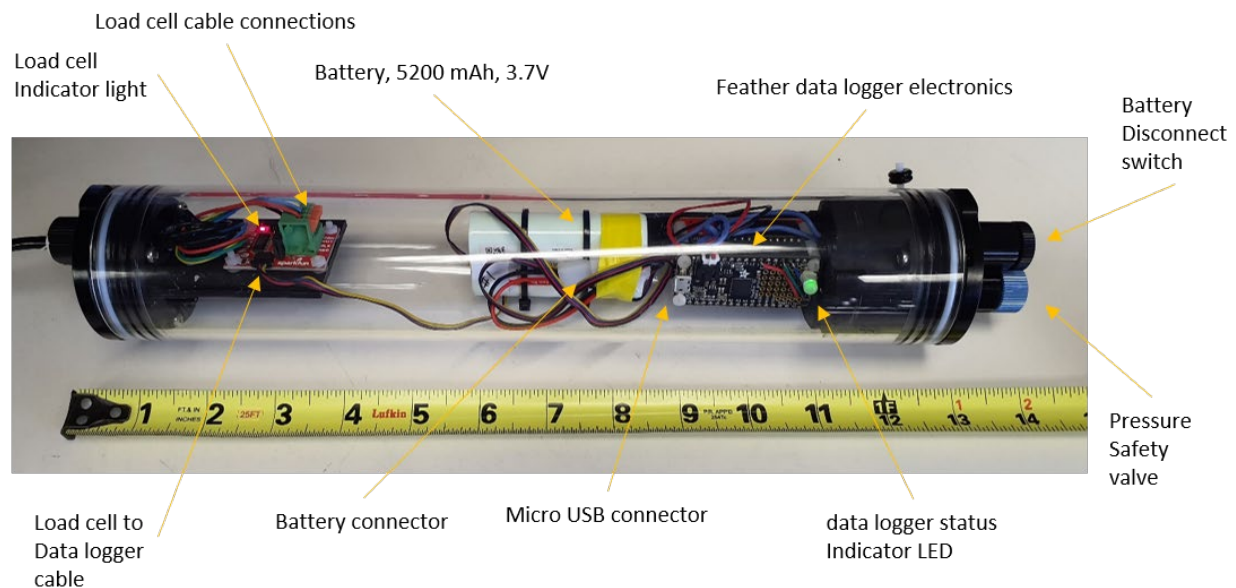

Figure 1: Parts of the load cell logger.
- Lithium ion rechargeable 5200 mAh, Tenenergy part #31001, is an oblong battery pack that requires the larger housing (Figure 1) to accommodate, and will last about 6 days. It is best to use the Tenenergy smart charger to recharge these batteries while disconnected from the data logger. The charger is Tenenergy model TLP-4000; part #01281.
One connects to the Feather logger via the USB connector on the Feather card, see Figure 1.